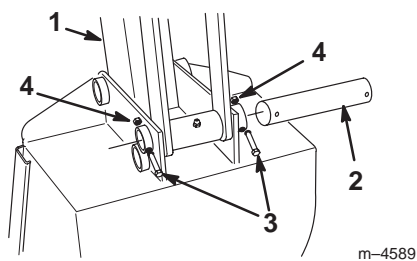

Figure 7
2. Remove the bolts and nuts securing each of the two bucket pins to the dipperstick (Fig. 7).
4. Align the pin holes in the bucket with the mounting holes in the dipperstick (Fig. 7).
5. Secure the bucket with the pins, bolts, and nuts removed previously (Fig. 7).